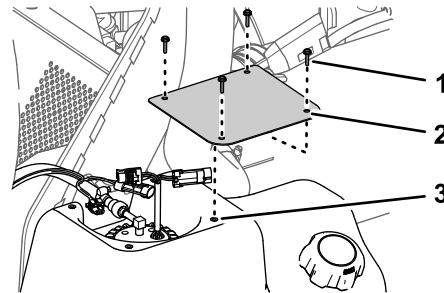

Figure 82
2. At the fuel tank, remove the 4 screws (#10 x 3/4 inch) that secure the cover to the top of the fuel tank, and remove the cover (Figure 82).